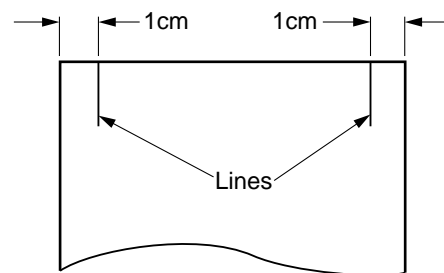

Figure 3-505
- 1) Draw a line 1 cm from both ends of copy paper (A4 or A3) as shown in Figure 3-505.